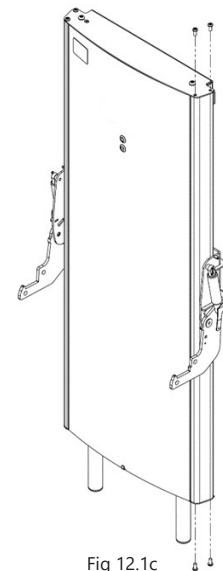

Fig 12.1c
- Start by removing the four screws which retain the aluminium beam as shown on one side only, as shown in Fig 12.1c. Two security screws on the top and two security screws on the bottom.